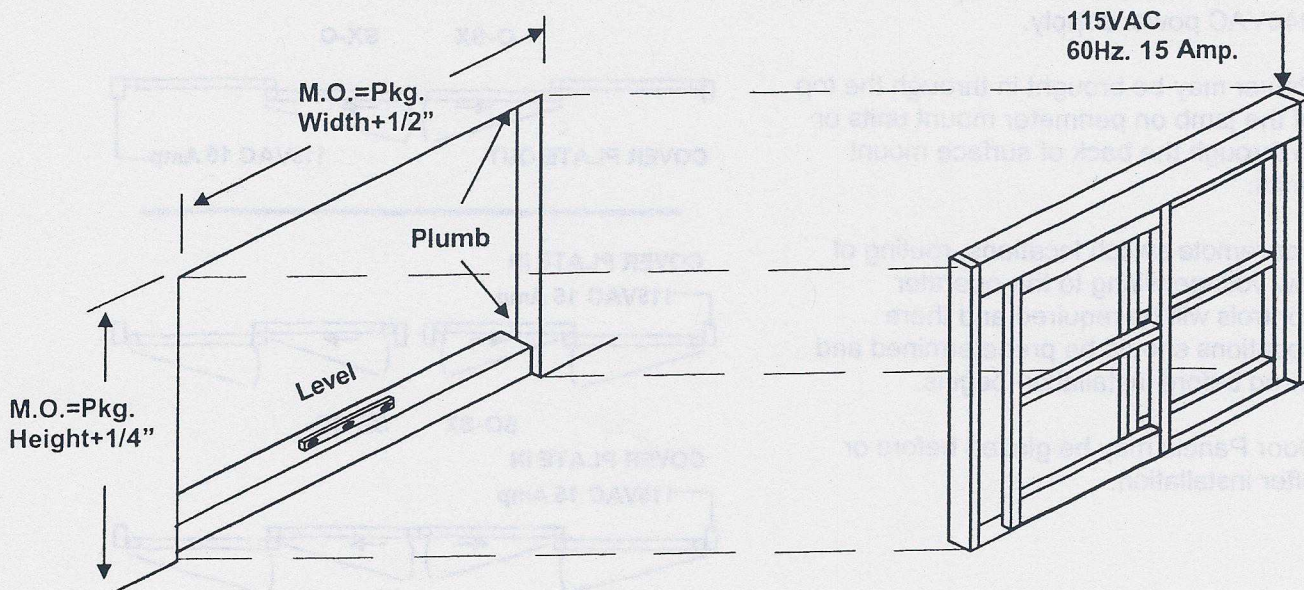

Figure 1
2. Check the door opening for plumb and level. The floor must be checked for any high spots. The header can be used for the straight edge to detect any variation in the floor surface. Fill the low areas to make the floor level. See the **Figure 1** below for additional information.